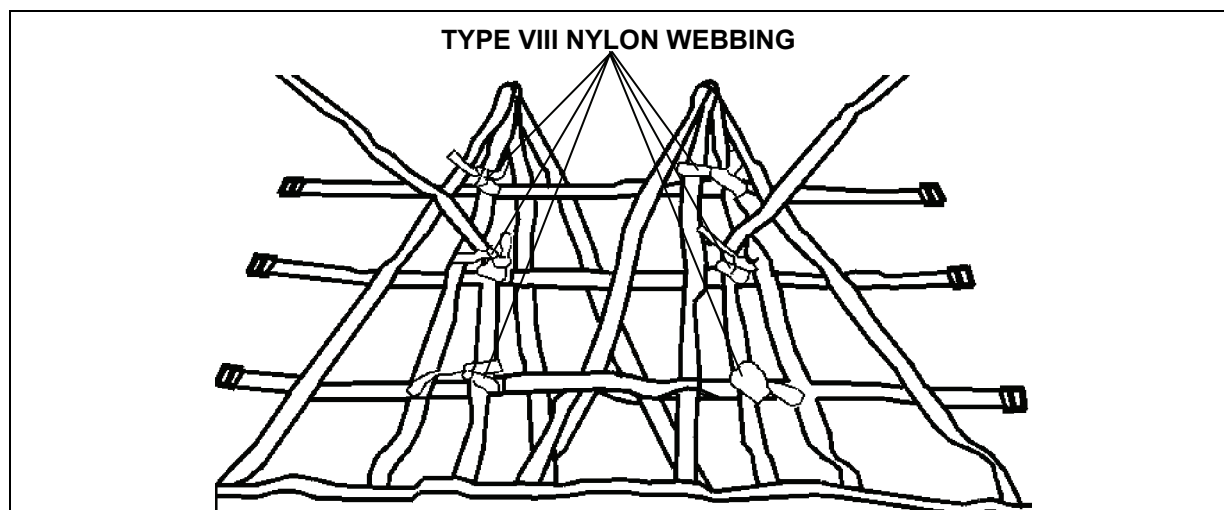

Figure 8-20. Friction Adapters Tied to Lateral Straps
- Use a length of Type VIII nylon webbing or two turns of 1-inch tubular nylon webbing to tie the friction adapters diagonally around the intersection of the short tie-down strap and the corresponding lateral strap of the other sling assembly (Figure 8-20).